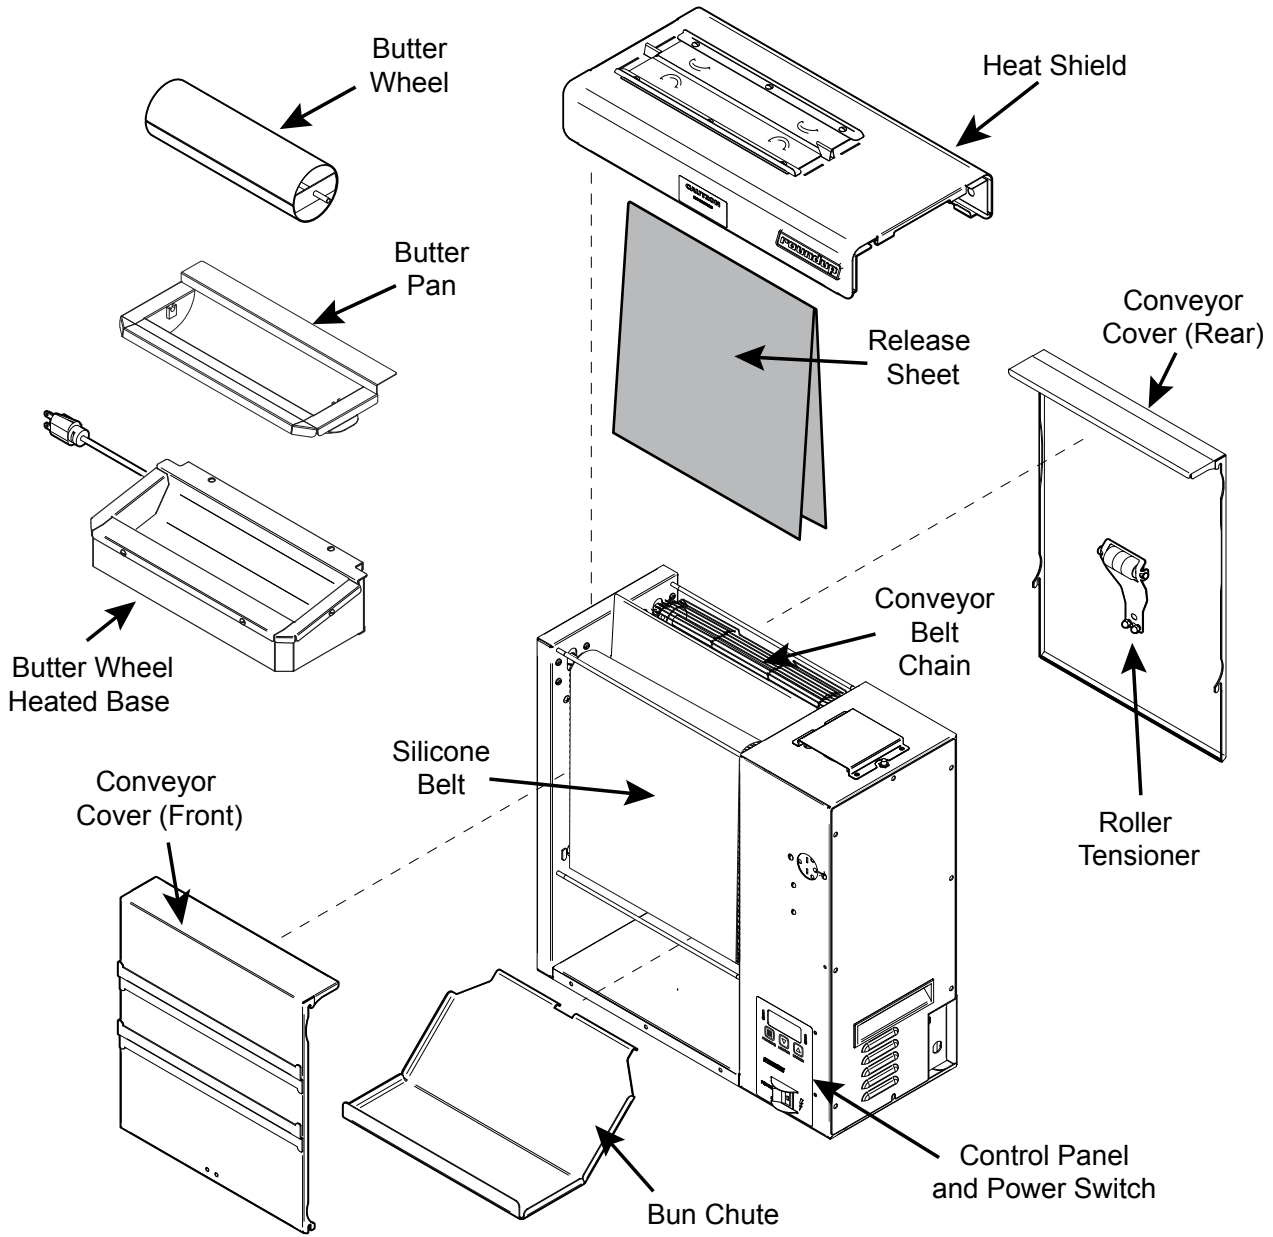

Figure 1. VCT-2010 Vertical Contact Toaster
NOTE: The factory has pre-installed a Release Sheet over the Platen (Figure 1). Verify that it is properly in place before proceeding.
3. Hang the Butter Wheel Heated Base on the front of the unit and install the Butter Pan and Butter Wheel inside. (Figure 1).